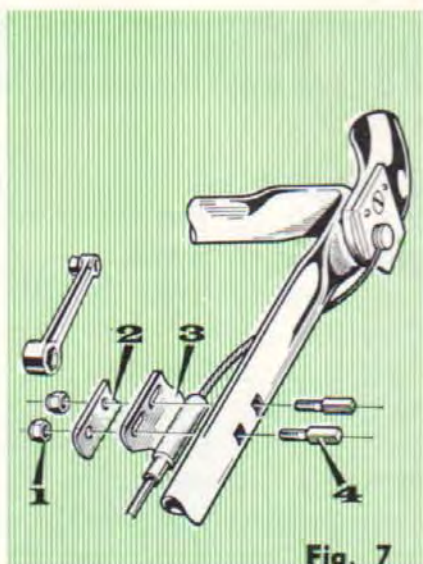

Fig. 7
To fit the capsule assembly (3) in its correct working position refer to fig. 7 and insert both square head bolts (4) from outer side of handle. With slight downward pressure fit capsule over both protruding bolt threads, replace clamp plate (2) and secure with nyloc nuts (1). Adjustment to the clutch cable can be obtained by slackening off both nyloc nuts and moving capsule up or down the handle as required. Ensure that there is neither excessive slack or tension in the cable.
Slack in the cable is set to virtually zero when new. After protracted use, this will increase. If the slack exceeds  $\frac{1}{8}$ ", the cable must be re-adjusted at the capsule as shown in Fig. 7. Slacken off both nuts and move capsule down.